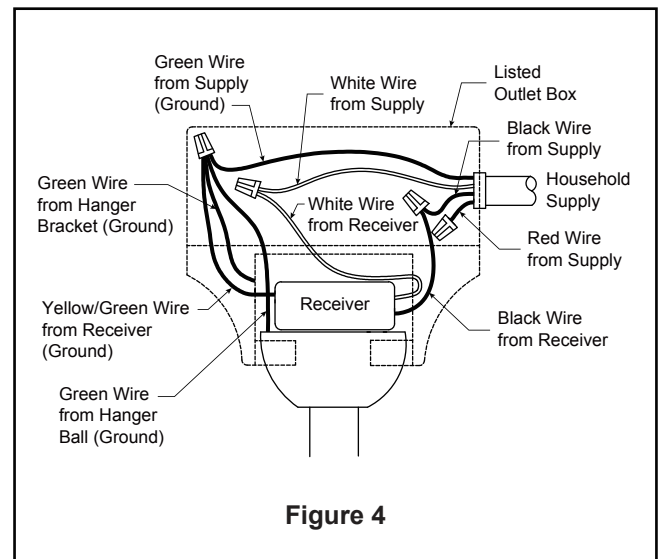

Figure 4
3. After connections have been made, put the white and green leads to one side and the black leads towards the other side, the connection should be turned upward and carefully push leads into the outlet box. The wires should be spread apart with the grounded conductor and the equipment-grounding conductor on one side of the outlet box and the ungrounded conductor on the other side. (Figure 4)